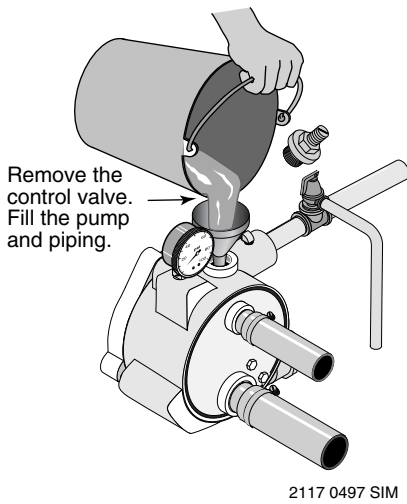

Figure 14: Fill Pump
1. Remove the control valve and fill the pump (see Figure 14). Fill all piping between the pump and the well, and make sure that all piping in the well is full. If you have also installed a priming tee in the suction piping, remove the plug from the tee and fill the suction piping.
5. When the pressure has built up and stabilized at about 40 PSI (Models (2805/6/10E) or 50 PSI (Model 2815E), slowly open the control valve (see Figure 14) and let the pressure drop until the pressure gauge needle starts to flutter. When the needle flutters, close the valve just enough to stop the flutter. Your pump is now operating at its most efficient point.